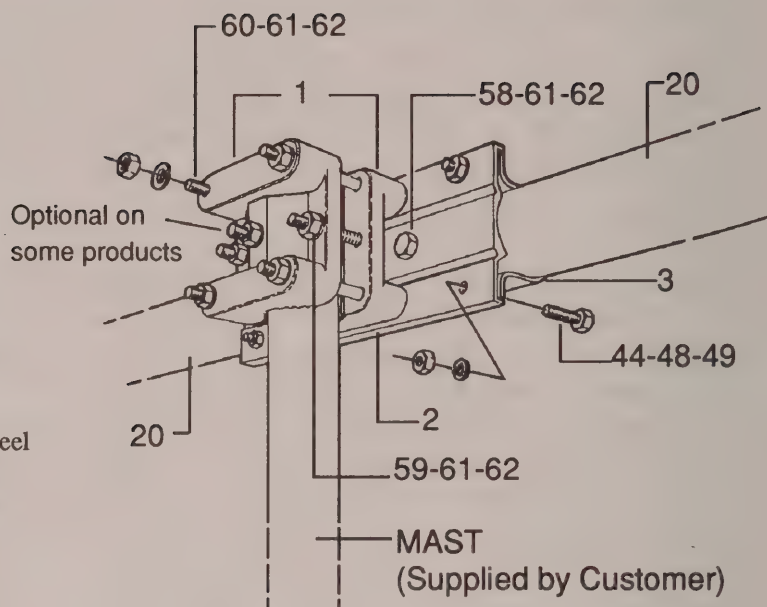

Figure 2
Select the boom-to-bracket clamp parts (Item Nos. 2 and 3). Loosely assemble them on the boom ends (Item No. 20), as shown in Figure 2. Line up the holes on both brackets and both boom ends. Secure the two brackets together with four (4) 1/4"-20 x 3/4" bolts, lockwashers and nuts. Secure the brackets to the boom ends using the 5/16"-18 x 2 3/4" bolts, lockwashers and nuts. Tighten these six (6) bolts securely.
Assemble the two cast aluminum brackets (Items No. 1) on the mast at the desired height above your tower. Secure the two brackets together using the two (2) 5/16"-18 x 3" bolts, lockwashers and nuts. You may wish to drill a hole through your mast so that a 5/16"-18 x 3 1/2" bolt may be inserted through the cast brackets and the mast and tightened. This bolt will prevent the antenna from twisting on the mast in high winds. See Figure 2. The four (4) 5-inch bolts will be installed when the antenna is installed on the mast.